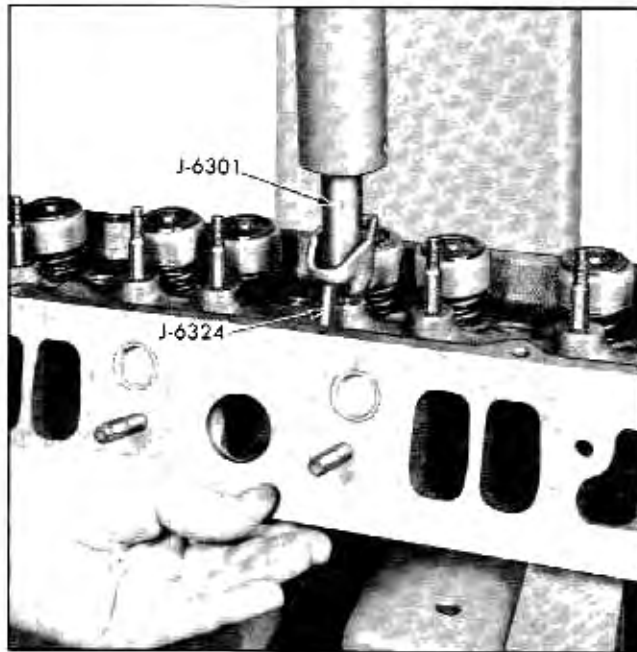
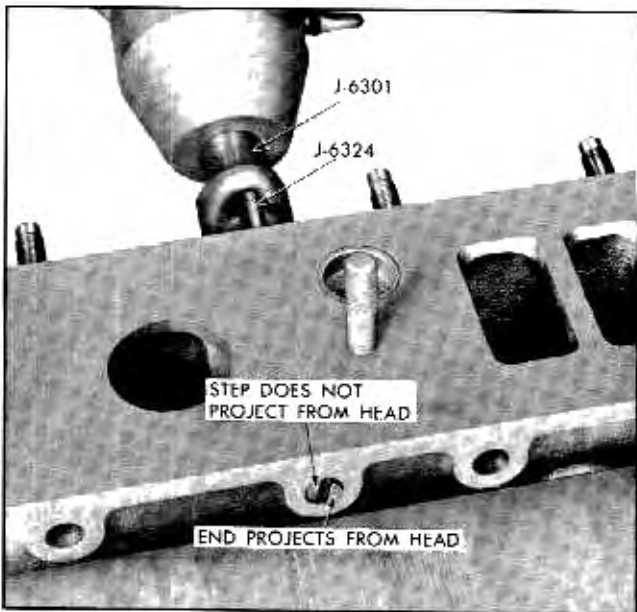

Fig. 6-20 Pressing in New Rocker Arm Stud
Fig. 6-21 Step of Gauge When Stud is Properly Installed
When installing new head transfer all serviceable parts to new head using new seals on intake and exhaust manifold valve stems, and new exhaust manifold gasket. Install new water passage plug using gasket cement, and install new intake manifold mounting studs. Check rocker arm position with valve train gauge J-6324 (Fig. 6-21).
9. Coat rocker arm stud with white lead and oil and with cylinder head mounted in press on tool J-5712 so studs are vertical, position new stud with rocker arm and rocker arm stud installer over hole in head (Fig. 6-20).
12. With valve seated, slowly press rocker arm stud into cylinder head (Fig. 6-20) until gauge projects about midway between the end of the gauge and the step with respect to the gasket surface of the cylinder head (Fig. 6-21).